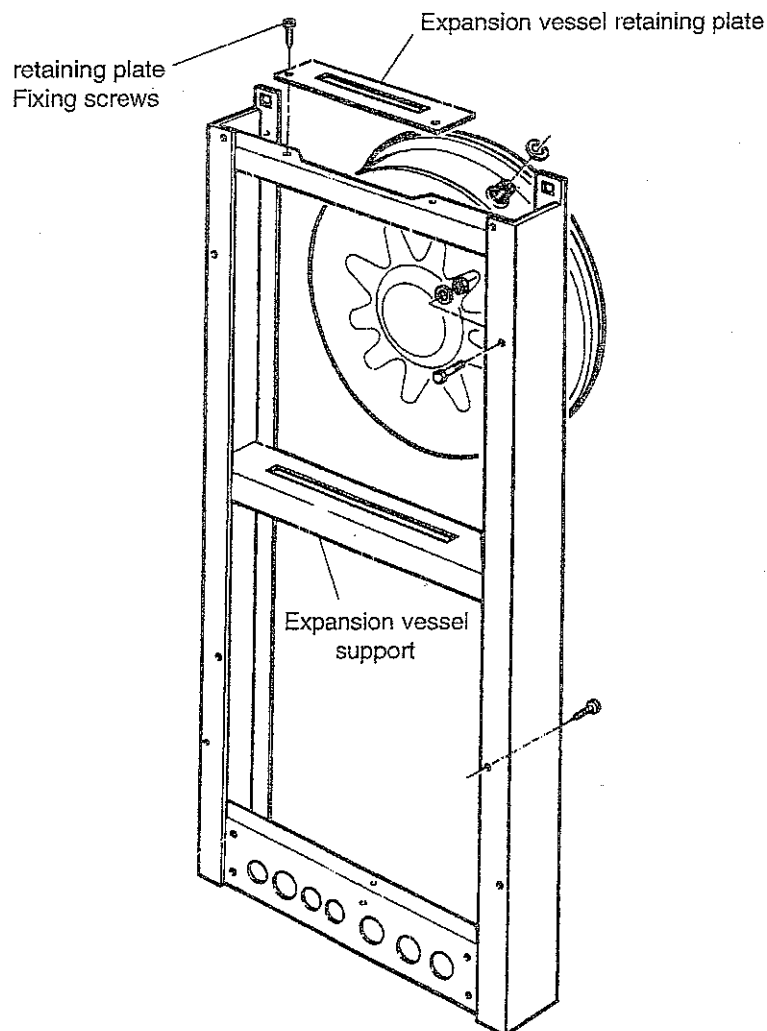

Fig. 47
- II) Remove the two screws from the expansion vessel securing plate, (fig. 47) which can be found at the top back of the boiler.
- III) Undo the compression fitting on the top of the expansion vessel (fig. 47).